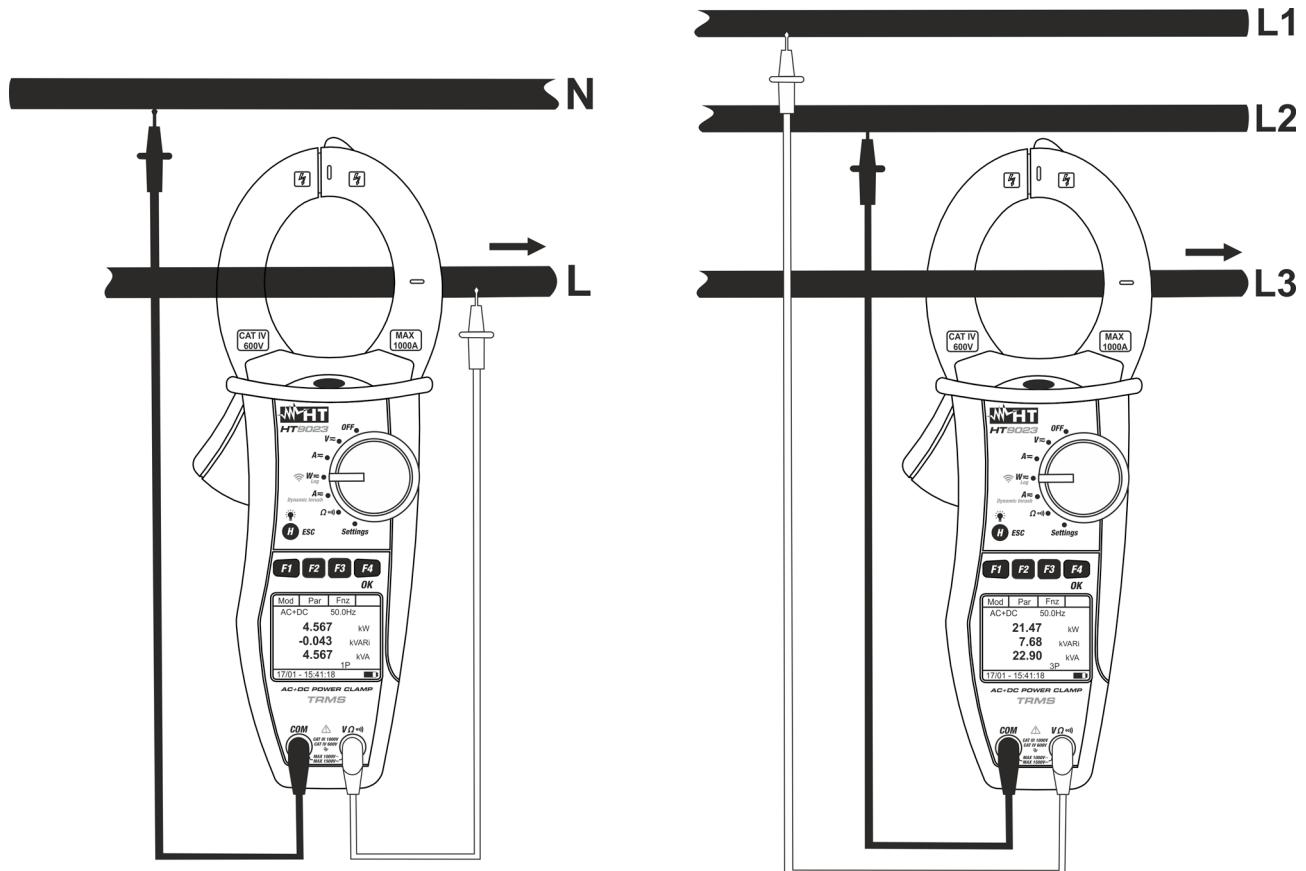

Fig. 13: AC/AC+DC power measure on Single phase and balanced Three phase systems
6. Connect red cable to input lead **VΩ** and black cable to input lead **COM** then perform the connection as indicated in Fig. 13 depending on the type of system under test. Put the phase cable into the clamp jaws respecting the direction of current indicated by the arrow (see Fig. 13). Connect the cable to the middle of the clamp jaws, in order to get accurate measurements. Use the marks as a reference (see Fig. 2)